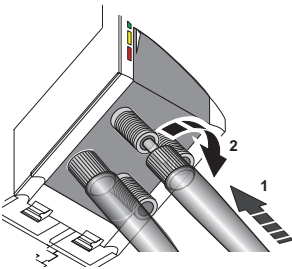

Figure 12 F-SMA connection
- The connectors are secured on the device by manually tightening the screw collar (see 2 in Figure 12).